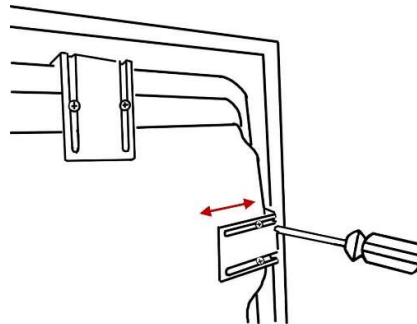

Figure 1.9 Left, Right side
- Holding panels are placed on the bottom side on the left, right (Figure 1.9) and back (Figure 1.10) position. Make sure that all the screws are secured back firmly.